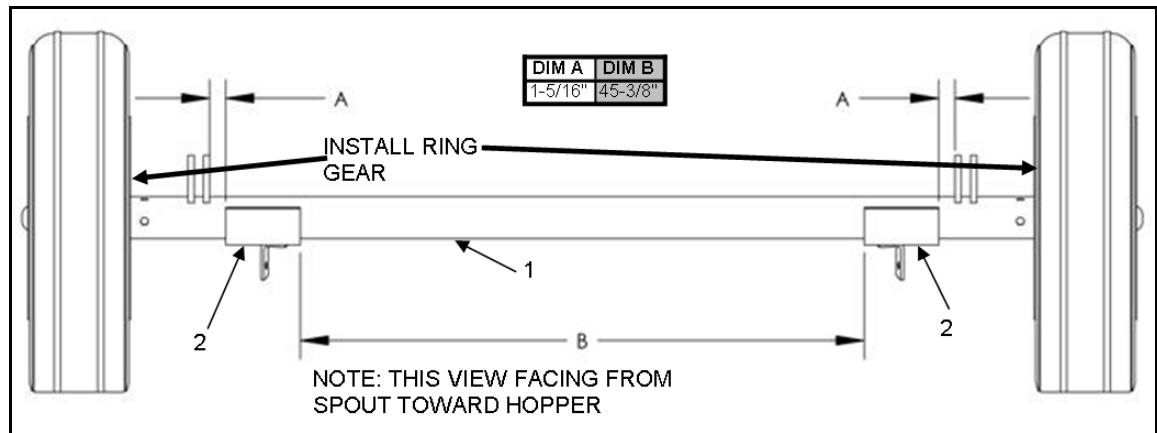

Figure 3.3 Axle and Axle Tabs
RETROFIT ASSEMBLY (Figure 3.3)
1. Prepare axle (1) for axle tabs (2) by removing paint from surface where the tabs are to be welded.
3. Weld the axle tabs to the axle at the dimensions A and B shown in Figure 3.3. Touch up paint.